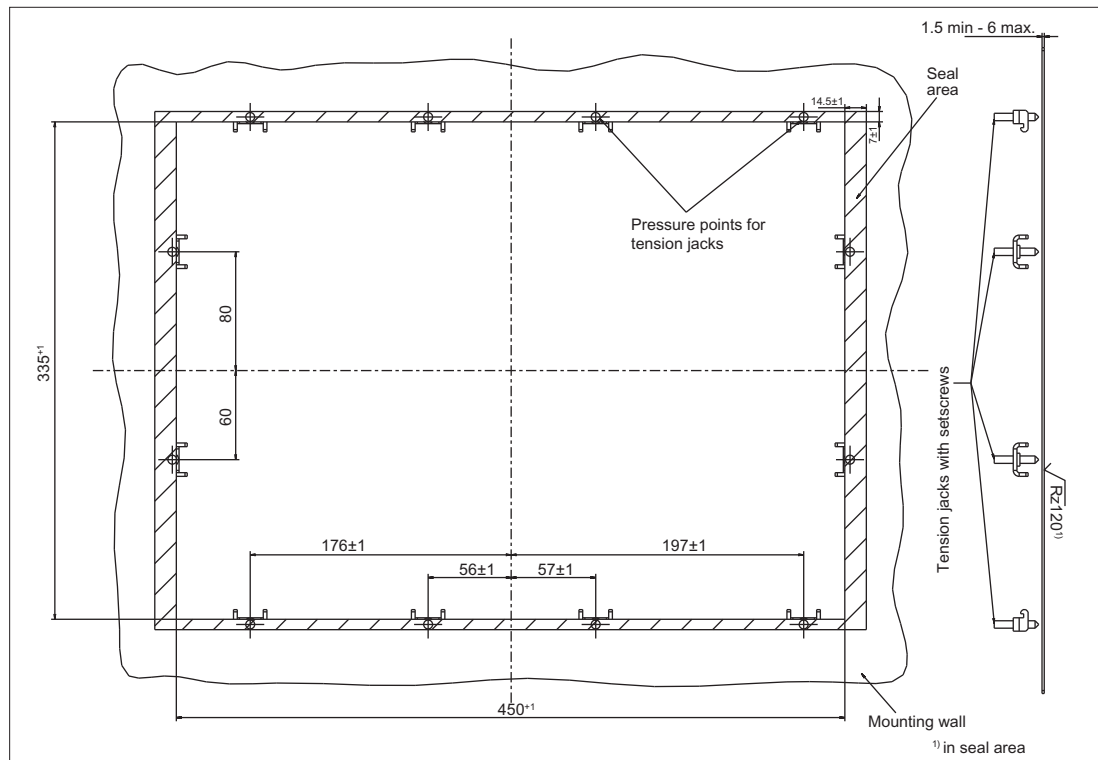

Figure 9-3 Dimension sheet for mounting the TP 015A operator panel front
1. Insert the assembled components (operator panel front and PCU) from the front into the panel cutout (see Figure 9-3 Dimension sheet for mounting the TP 015A operator panel front (Page 144)).